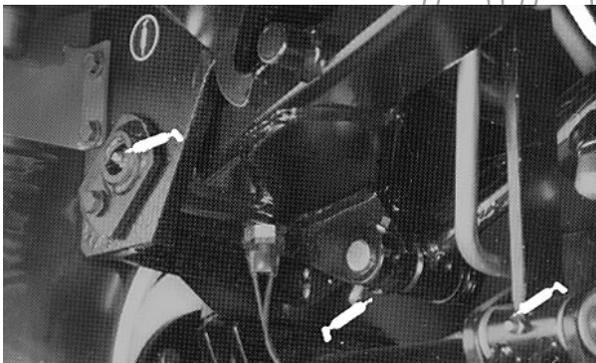
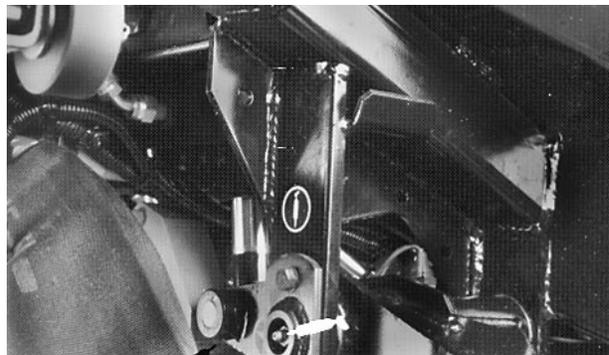

Figure 18
Figure 19
Two- and Four-wheel drive the machines— #1 Lift arm pivot (1), #1 lift cylinder (1), brake arm pivots (2) (Fig. 18); #2 & 3 lift arm pivots (2), #2 & #3 lift cylinders (2), brake pivot (1) (Fig. 19); brake pivots (2) (Fig. 20); traction pedal pivot (1) (Fig. 21); reel speed shaft (1) (Fig. 22); traction adjuster (1) (Fig. 23) and the transmission shift linkage (1) (Fig. 28)